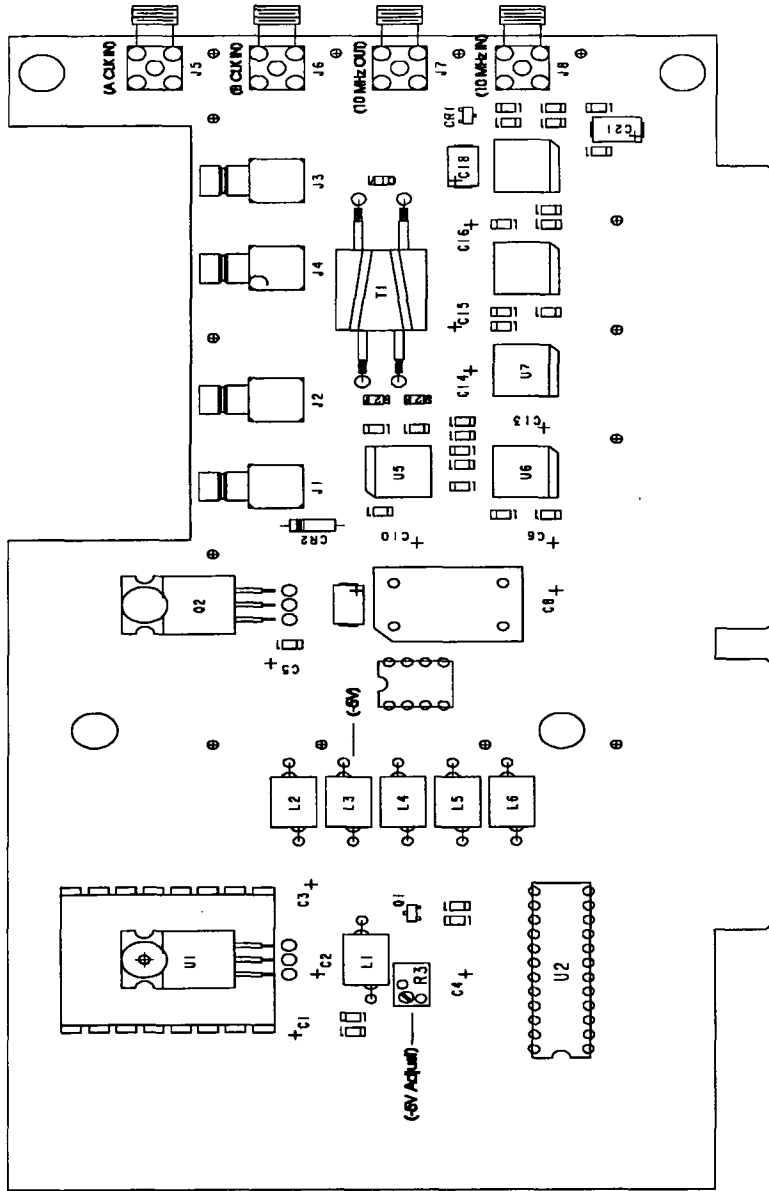

Figure E-4. 7200ARCLK Assembly Drawing
- Using the D.V.M Measure and adjust the -5V between GROUND and L3 by adjusting the POT R3. Adjust to $-5V \pm 25mV$ (See figure E-4)